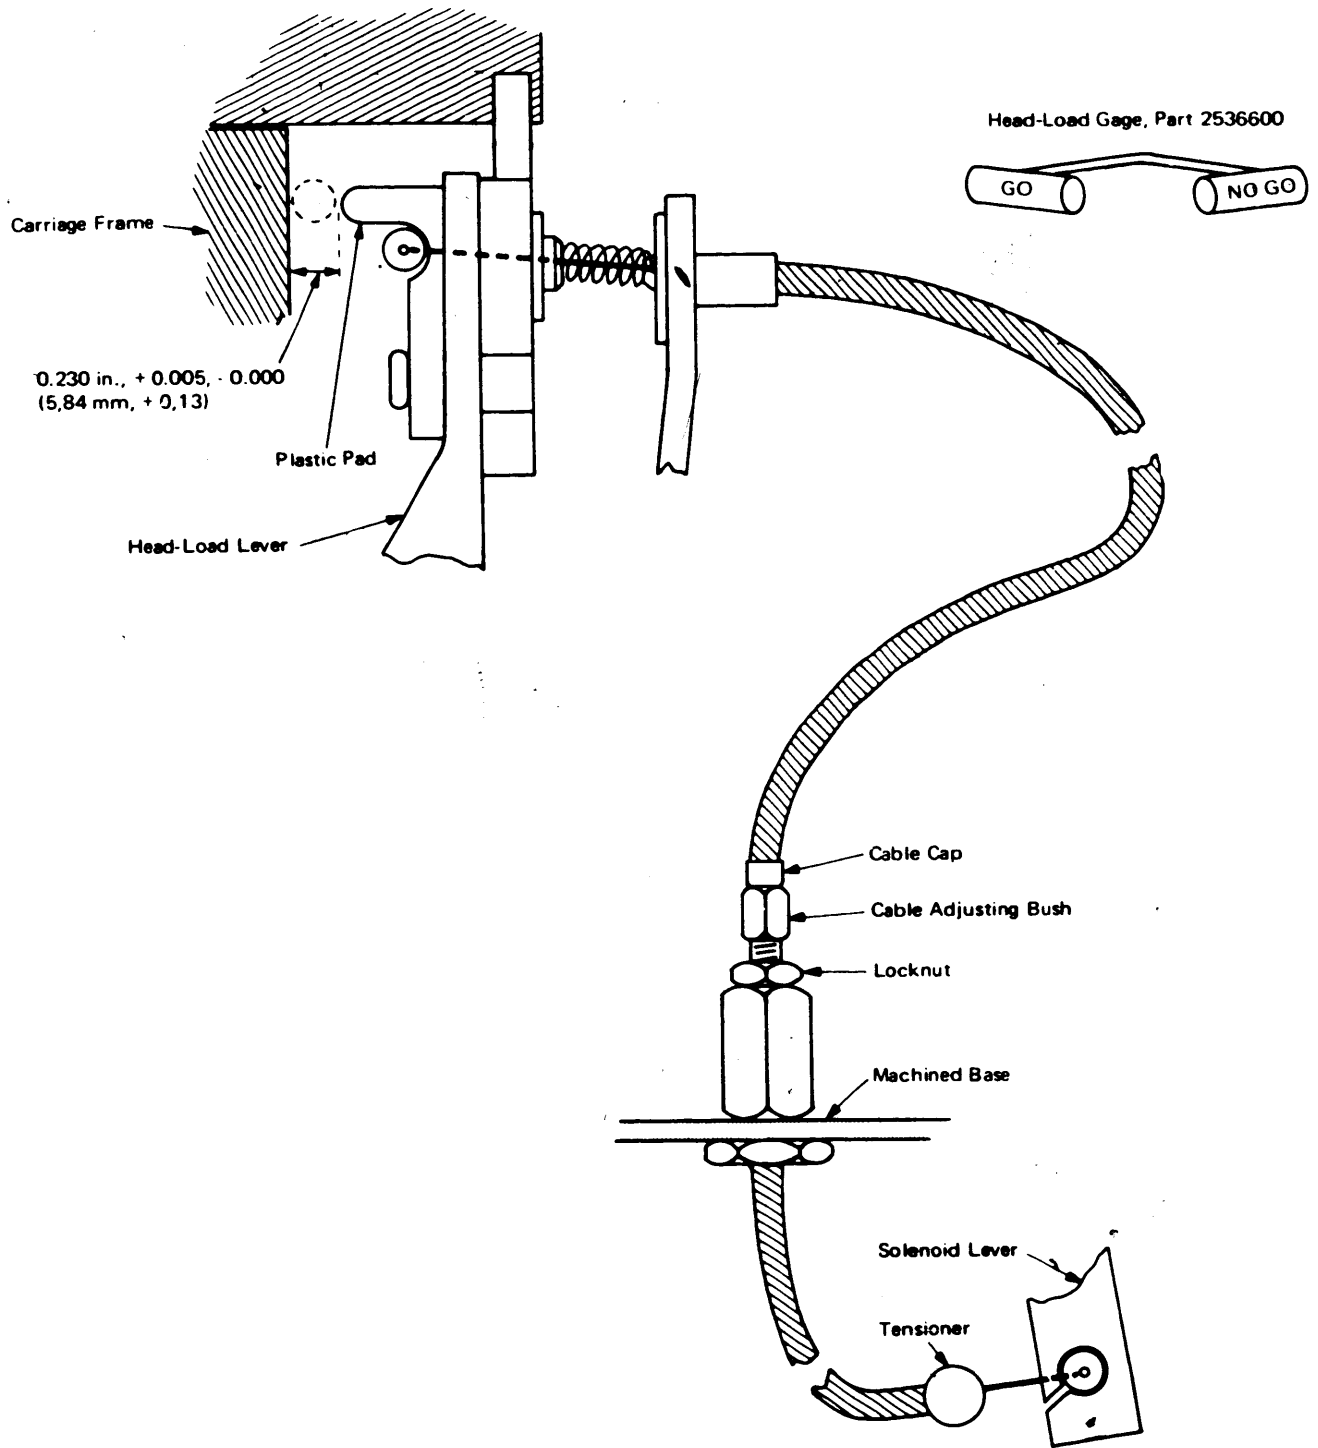

Figure 2-39. Head-Load Cable Adjustment [07561A]
5. Slacken cable adjuster locknut (Figure 2-39)Fr. B09 Ensure that cable cap is seated in cable adjusting bush.
5. Slacken cable adjuster locknut (see Figure 2-39)Fr. B09 Screw in the cable adjusting bush. Slip outer cable from tensioner and lift cable nipple out of solenoid lever. Take care not to bring the heads forcibly together.